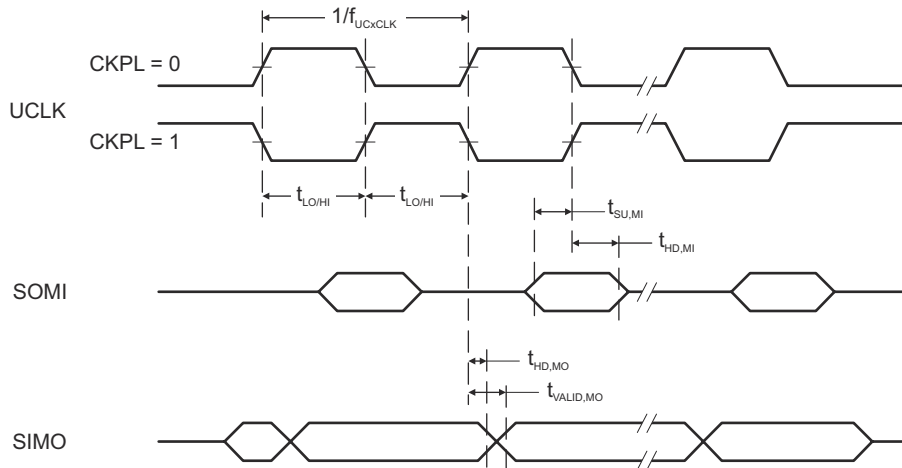
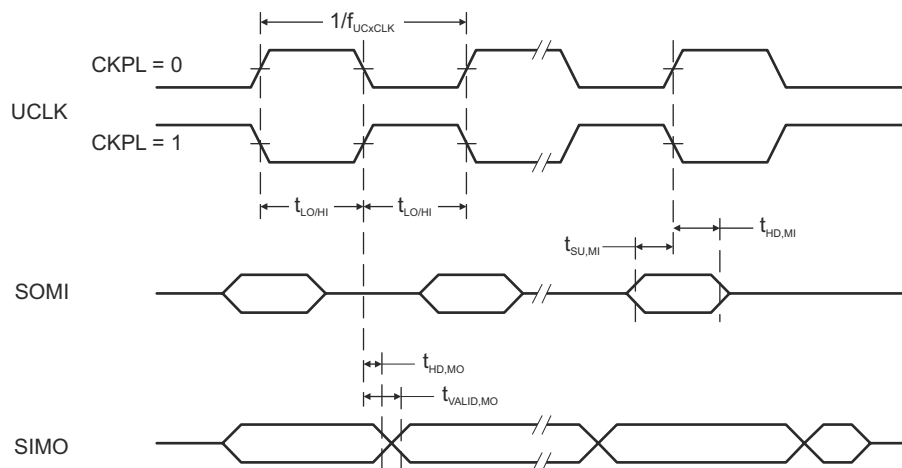

图 8-13. SPI Master Mode, CKPH = 0
图 8-14. SPI Master Mode, CKPH = 1
(see Fig 8-13 and Fig 8-14)
- (2) Specifies the time to drive the next valid data to the SIMO output after the output changing UCLK clock edge. See the timing diagrams in Fig 8-13 and Fig 8-14.
- (3) Specifies how long data on the SIMO output is valid after the output changing UCLK clock edge. Negative values indicate that the data on the SIMO output can become invalid before the output changing clock edge observed on UCLK. See the timing diagrams in 图 8-13 and 图 8-14.